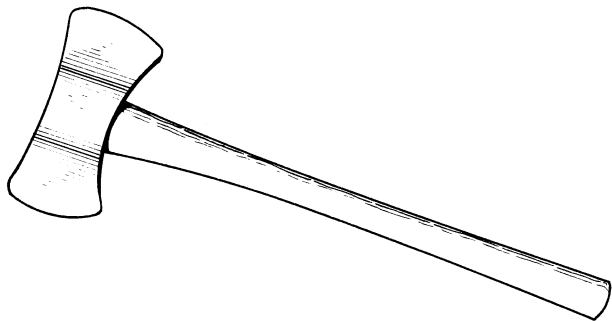

Figure 7.—A double-bit ax.
1. Double-bit, 3½- to 4-pound head, straight handle 28 to 34 inches long (fig. 7). This is the old favorite of the north woods logger. He likes its